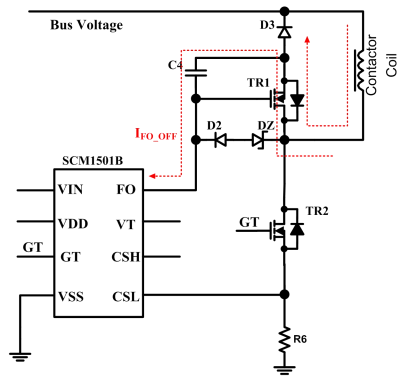

Fig. 8 Circuit schematic diagram of turn-off stage
(3) Figure 8, In the turn-off stage, see the circuit schematic of the shutdown phase. The MOS transistor TR2 is not turned on, and the FO will draw the current of the capacitor C4. The path of the current sinking I_{FO_OFF} is as follows: the current of the C4 is drawn through of the MOS transistor TR1. At this time, the MOS transistor TR1 operates in the sub-threshold state, and the drain terminal voltage of the MOS transistor TR1 is relatively large, and the voltage value is $V_{TH} + V_{D2} + V_{DZ}$, wherein V_{TH} is the conduction threshold voltage of TR1, V_{D2} is forward voltage drop of diode D2 and V_{DZ} is the voltage regulation value of the Zener diode DZ. At this time, the demagnetization voltage of the contactor coil becomes large, the coil current is attenuated quickly, and finally the effect of fast turn-off is achieved.